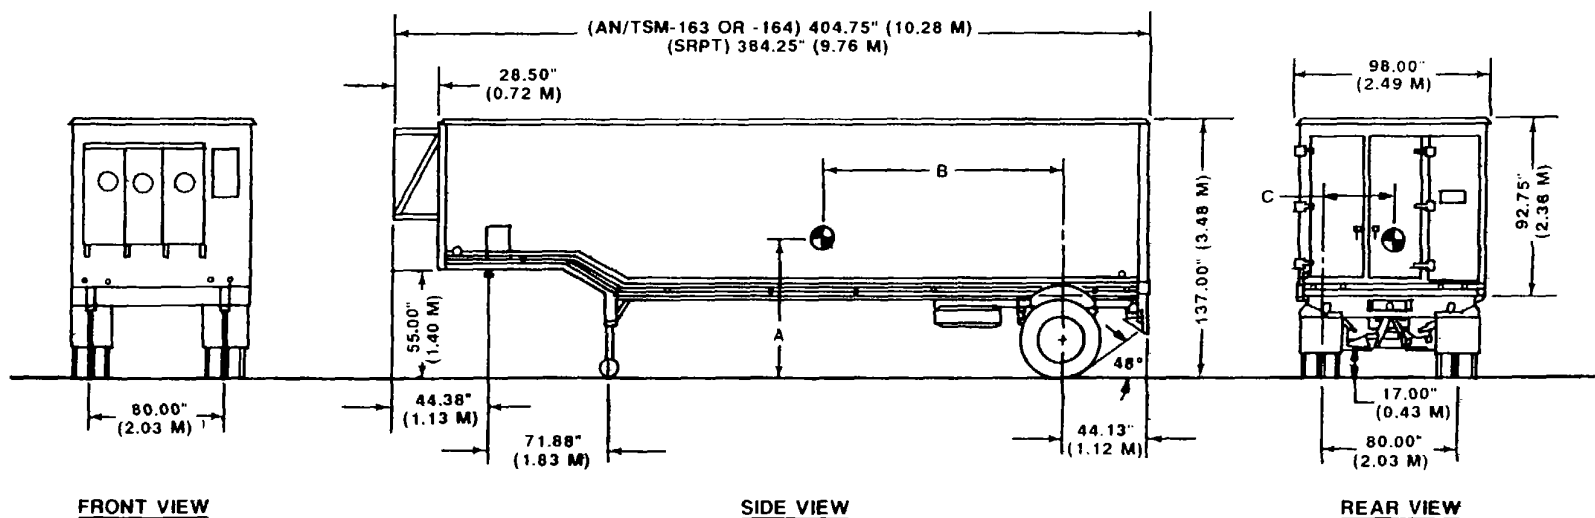

Figure 2-14. Battalion maintenance center AN/TSM-163, or small repair parts transporter M1032, mounted in a modified M373A2 semitrailer van
g. Maintenance Centers, Battalion AN/TSM-163, Battery AN/TSM-164, and Small Repair Parts Transporter M1032. The maintenance centers and small repair parts transporter are M373A2 semitrailers towed by M932, 5-ton truck tractors, as shown in figures 2-14 through 2-16.